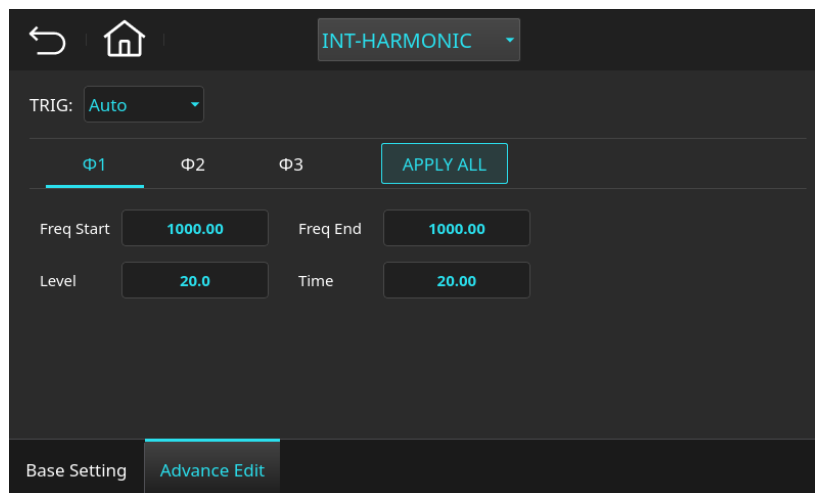

Figure 5-32 Interharmonic Mode Setting Page (Example Parameters for Phase 1)
5. Set TRIG = Auto, and edit the parameters as shown in Figure 5-32.